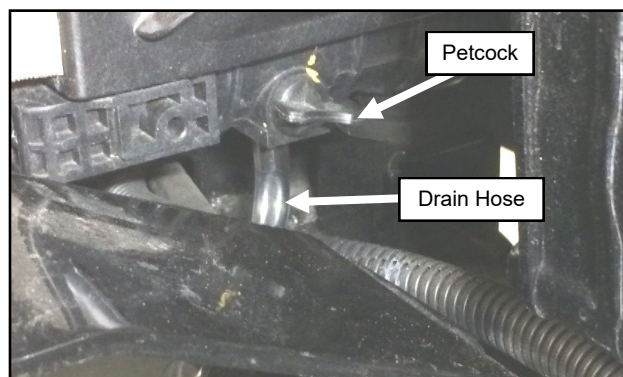

Fig. 17.1 (Petcock Valve Under Radiator, Right Side)
17.1 Place a clean coolant drain pan under the radiator. Next, drain coolant from radiator petcock. See fig. 17.1.